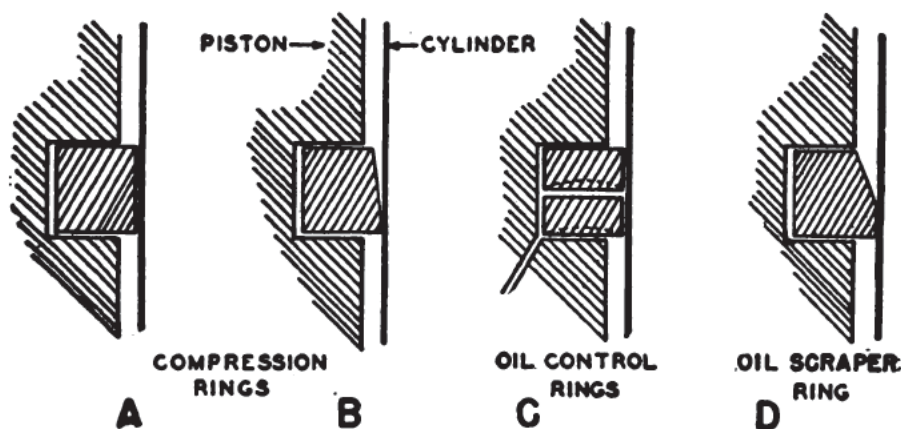

Figure 12.—Cross section of piston rings.
The oil-control ring is usually similar in construction to a compression ring. Some manufacturers, however, use two thin rings as shown in (C) of figure 12. They are milled out at intervals on the lower side to permit the surplus oil from the cylinder wall to seep freely back into the crankcase through the drilled holes in the groove. An oil-scraper ring, beveled on its outside circumference, is shown in (D) of figure 12. Modern types of compression rings are similar to oil-scraper rings, but with only a slight bevel as pictured in (B) of figure 12.